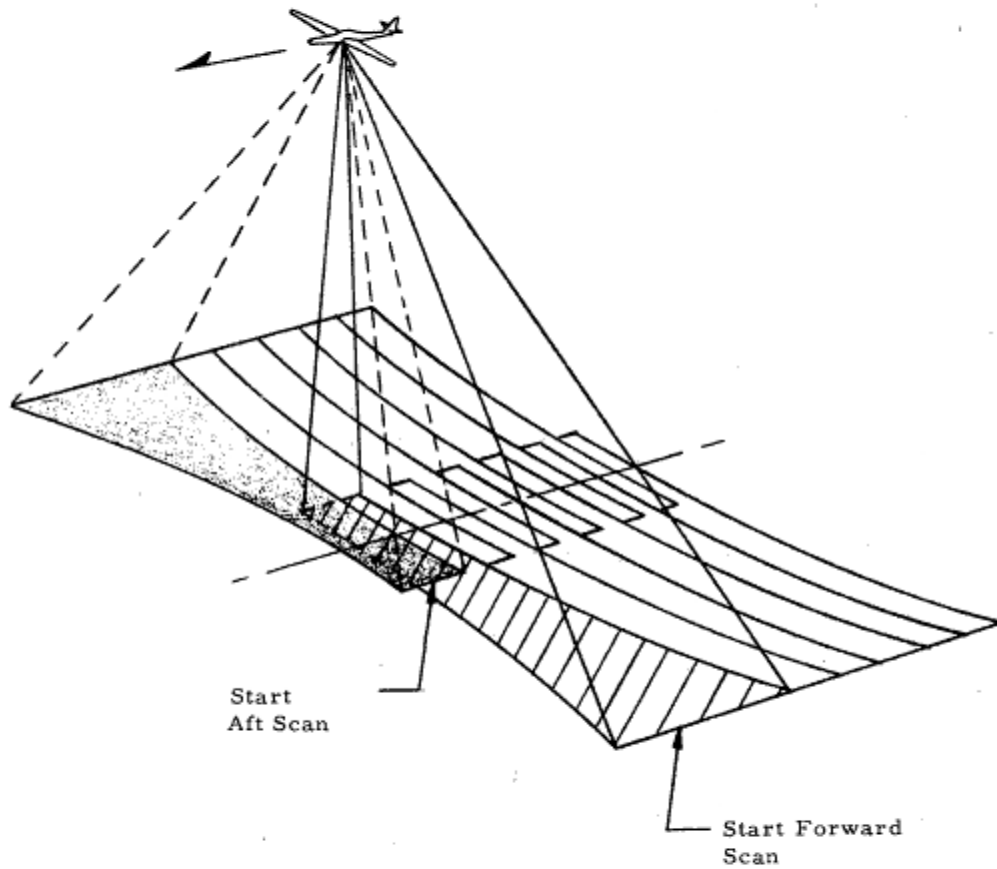
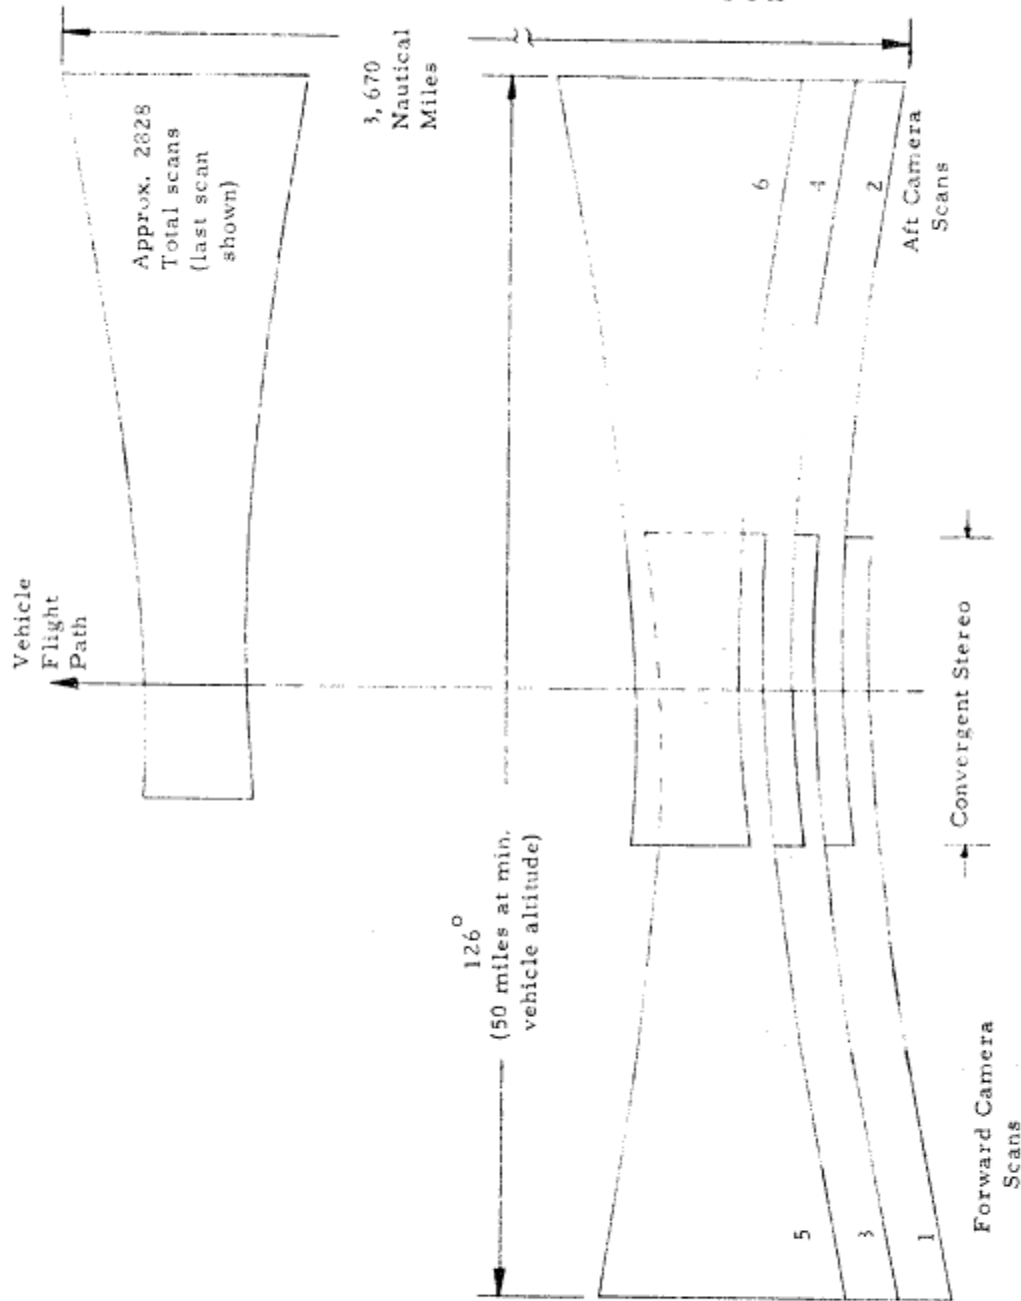

Figure 2-1. Aerial Panoramic Photography, Type II
Figure 2-2. Ground Coverage Format, Straight And Level Flight, Type II
- 2-3. Photographic coverage of the Type II system is represented in Figure 2-1. The forward camera scans the earth from  $63^{\circ}$  to the left of nadir to  $30^{\circ}$  to the right of nadir. The aft camera scans the earth from  $30^{\circ}$  to the left of nadir to  $63^{\circ}$  from the right of nadir. Each mission can provide 3670 nautical miles of flight line coverage on 2828 frames and 50 to 63 miles (or  $126^{\circ}$ ) total transverse coverage. The scan overlap provides full stereo viewing of mission results for all points on each frame format. In addition to normal stereo, convergent stereo is available within the scan overlap of  $30^{\circ}$  each side of the vertical centerline. See Figure 2-2.